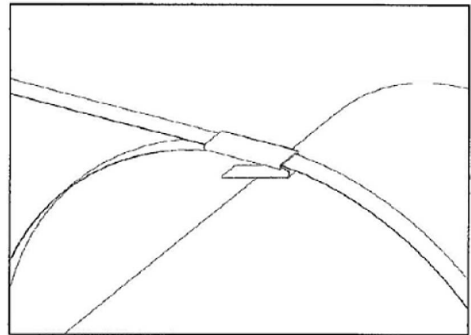

Figure 3
4. Slide tool onto top strap, feeding strap under holding dog (Key #8) and through pusher bar slot (Key #3) with the seal against the nose of the tool. (Figure 3) Be sure the strap is flush with the inside edge of the MIP-1800.